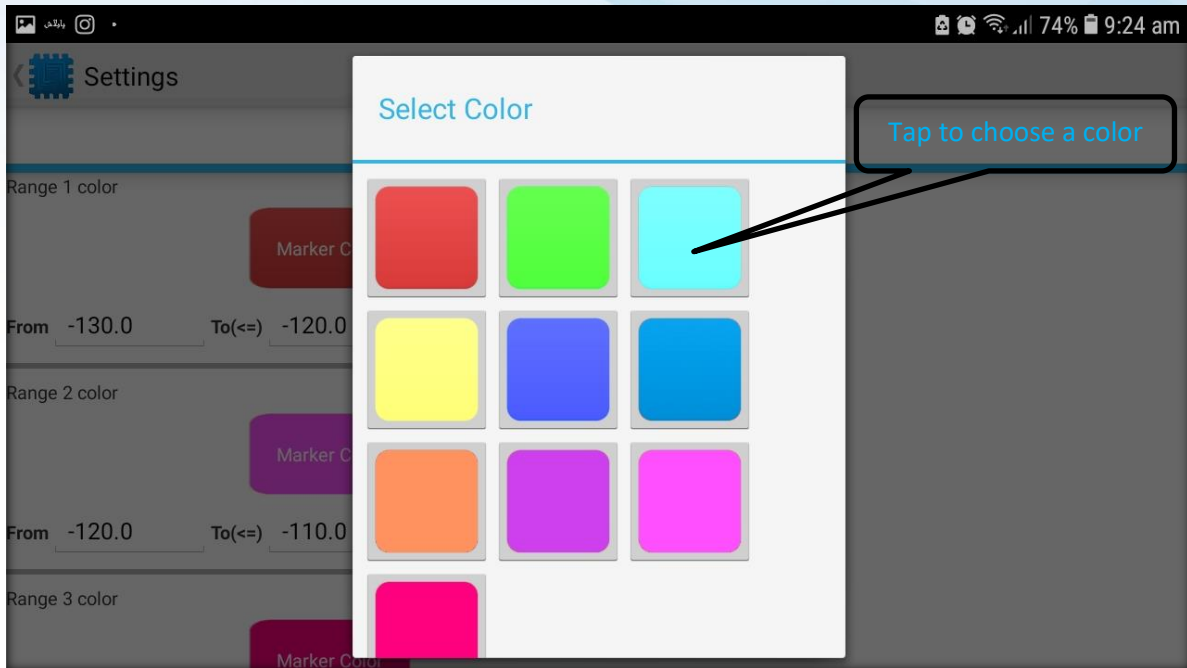

Figure 5: WalkView Power Ranges
3. Tap the colored box to pick a color then tap **OK** as depicted in Figure 5 below,